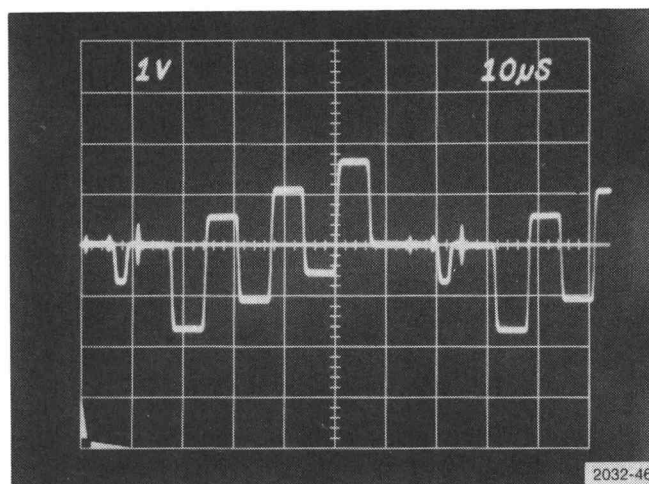

Fig. 5-34. Typical waveform at TP1954.
d. ADJUST—L1841 and L1847 B-Y (U) Filter for best transient response of the demodulated B-Y (U) chrominance. See Fig. 5-34.